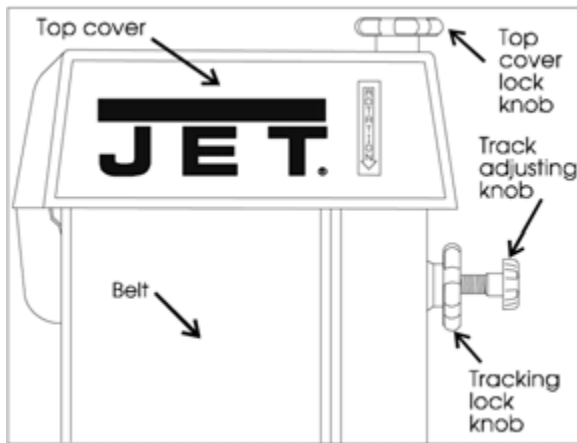

Figure 14: Top cover components
2. Remove the lock knob and top cover (See Figure 14).